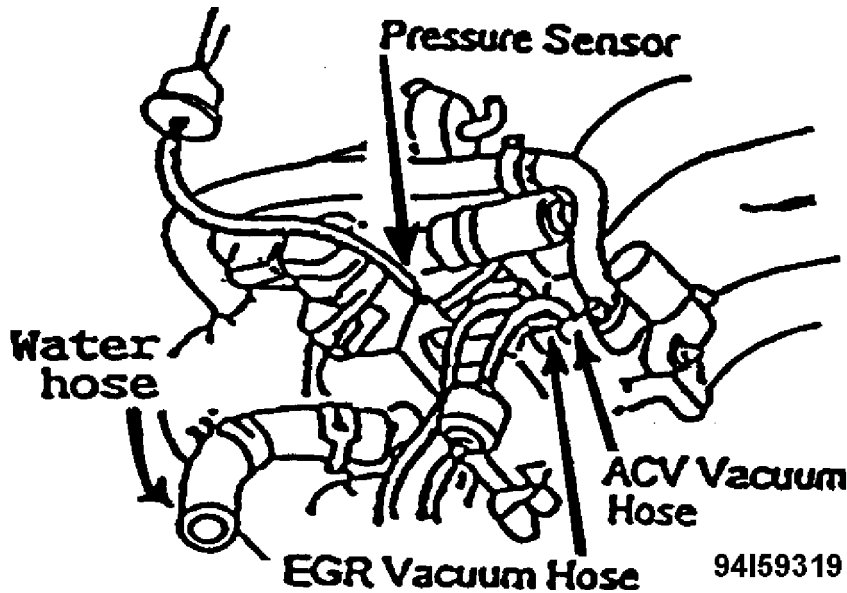

Fig. 37: EGR Vacuum Hose & ACV Vacuum Hose
16. Raise the extension manifold and disconnect the following harnesses, vacuum tubes and hoses from the side indicated by the arrows (-->) only. See Figs. 37, 38, & 39.